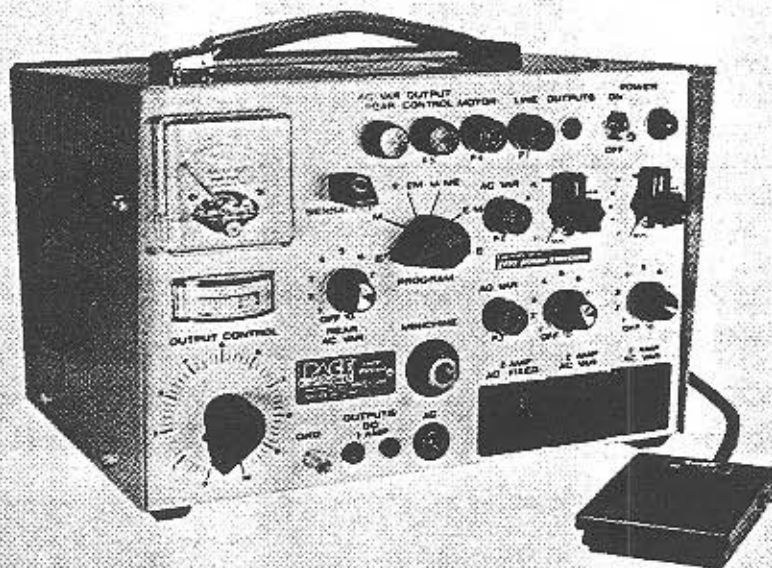

FIGURE 1A. PACE REPAIR SYSTEM PRC-350C
- PACE Model PRC-350C which consists of PACE Power Source PPS-200C* (see Figure 1A), and